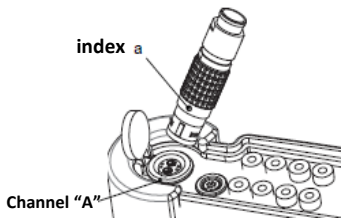

Figure 2: Transducer Attachment
- **Connect the flow transducers** to the flowmeter. The red points on the connector and socket must align (Figure 2).